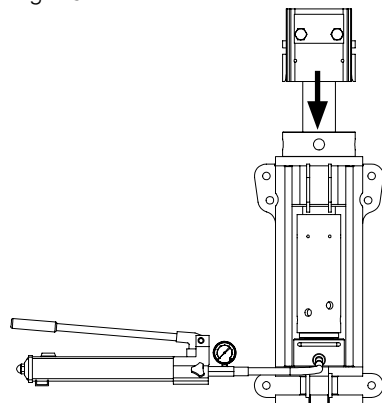

Fig. 26
7. Turn spindle nut (1.3) with Mounting Shaft VST in a clockwise direction until the spindle nut rests on the head plate. (Fig. 26)